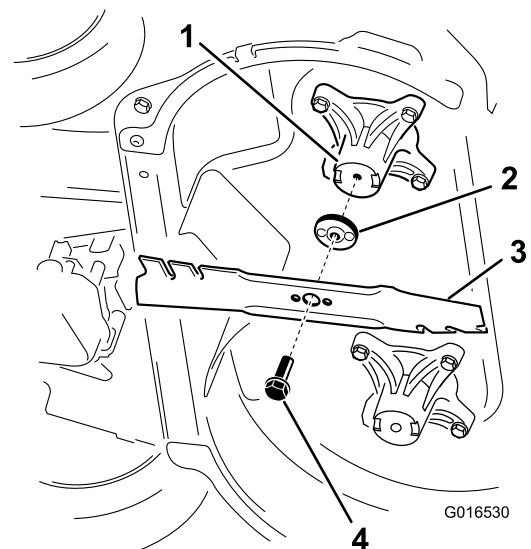

Figure 44
2. Remove each blade as shown in Figure 44.
1. Install the first blade so that it is horizontal, along with all mounting hardware as shown in Figure 44.